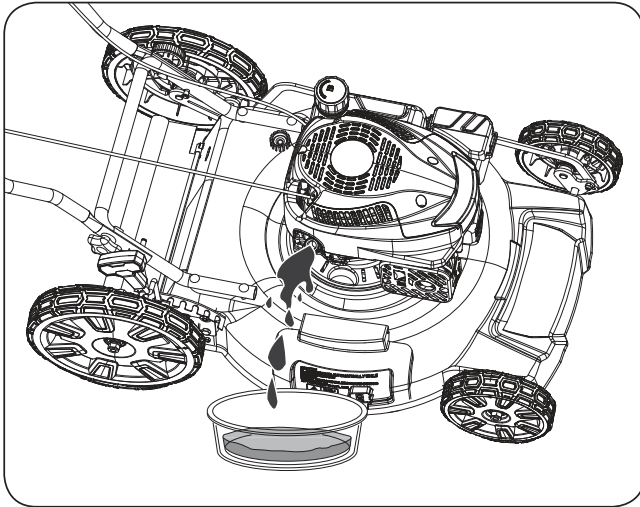

Figure 14
4. Tip the machine onto its side (so that the air filter is up) to drain the used oil from the oil-fill tube. (See **Figure 14**)